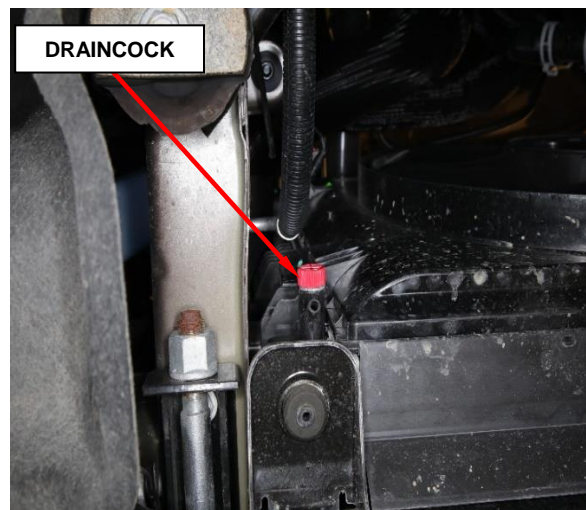

Figure 27 - Radiator Draincock
- b. Open radiator draincock located at the lower left side of radiator. Turn draincock counterclockwise until it stops and allow to drain (Figure 27).
- c. Tighten the radiator draincock (Figure 27).